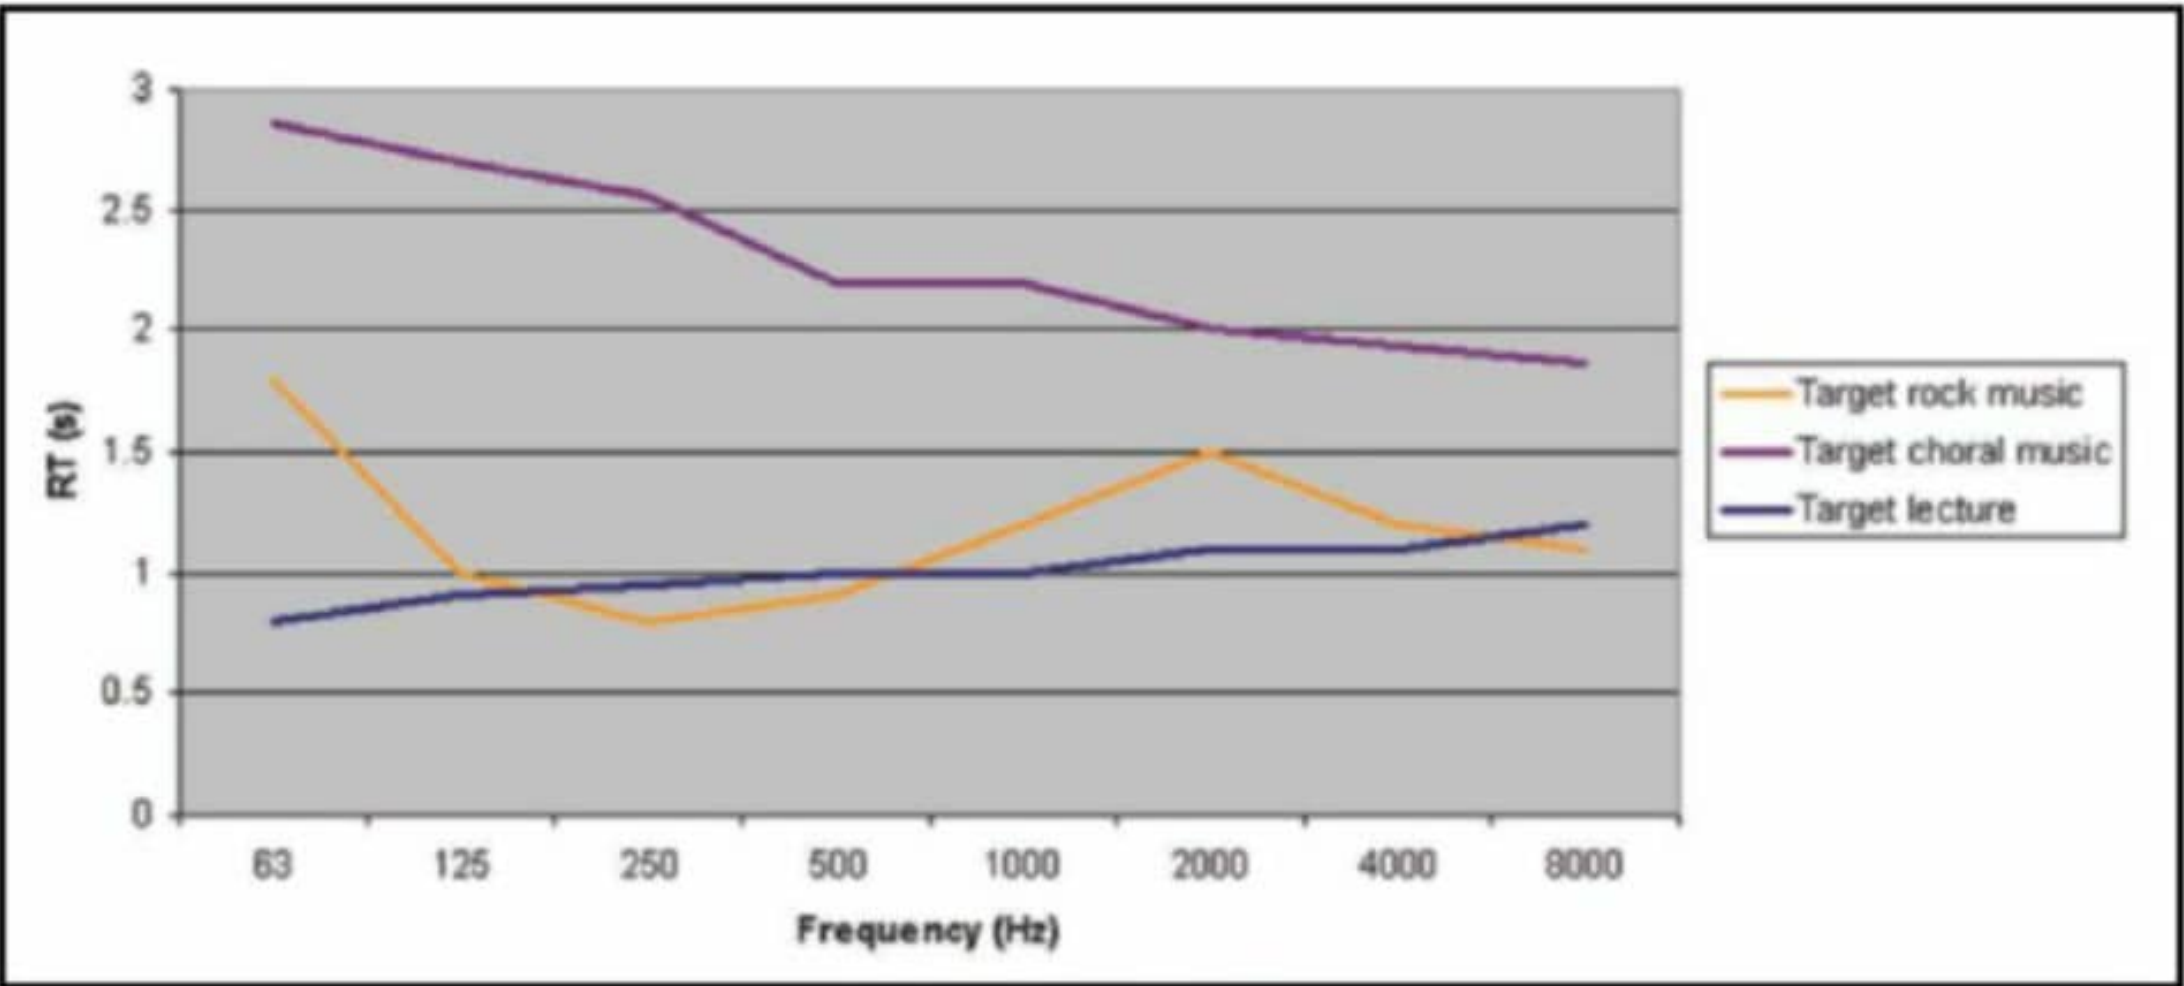

Figure 2: The target RT’s variation with frequency depends upon the use of the hall.
Figure 2: Sound pressure level frequency responses for three different adjustments. (Blue: under-compensation of the room modes; Green: over-compensation of the room modes; Red: correct compensation of the room modes. The harmonic distortion curves are shown at the bottom.
The time domain signal subtraction is illustrated in **Figure 2**. The ModeCompensator adjustment dial is adjusted until the room modes become invisible. The inversion of their phases at this point is a clear and accurate indicator.
While Beranek did not address the frequency dependence of the RT of these halls, presumably because of this factor having been addressed in the literature many times previously, this factor certainly must not be ignored if the acoustics of a hall are to be optimized. **Figure 2** shows curves representing the optimum variation of RT with frequency for a 500,000ft³ hall to support the most reverberant (choral music) and least reverberant (rock music) music styles, and for lecture use. While this represents an unusually large volume for a school auditorium or civic center, it is not particularly large for a cathedral or a gym.
To compare the performance of different approaches to passive variable acoustics, I built an EASE model of a multi-purpose (MP) hall of 400,000 cubic feet volume, designed for the three types of events for which target RTs are graphed in **Figure 2**. In designing a hall using passive variable acoustics, the hall must exhibit the longest optimum RT required by any event: in this case, choral music. The choice and location of acoustical absorption must be made with a view toward optimizing the frequency dependence of the RT, usually calculated with an occupancy of two-thirds of the maximum audience size. Control of RT variation with changes in occupancy is implemented by proper choices of seating design.